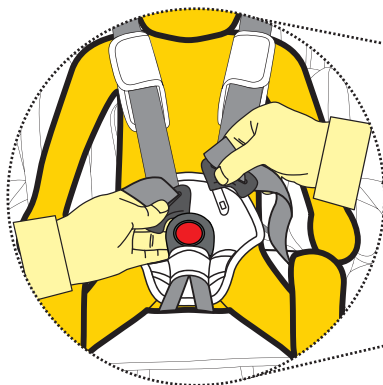

Figure 2
Step 4: Place the child in the restraint with legs either side of the buckle, place the harness over the shoulders and hips (refer Figure 2).
Step 5: Insert either tongue into the buckle followed by the other tongue until a **“CLICK”** is heard. Should the second tongue not insert, press the red button and reinsert the tongues. Ensure secure engagement by pulling the harness strap (refer Figure 2 and 4).